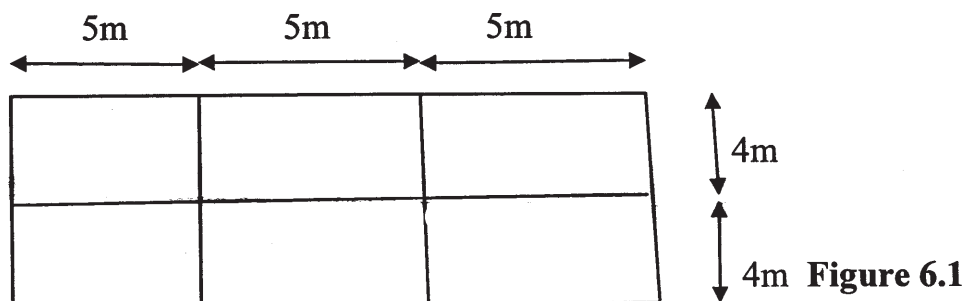

Figure 6.1
- Q6)** The plan for four storey hospital building is shown in figure 6.1. Assuming SMRF construction and medium stiff soil, determine seismic loads in Y- direction on structure. Take D.L. = 10 kN/m², LL = 3 kN/m² and floor height 3.2 m. [16]